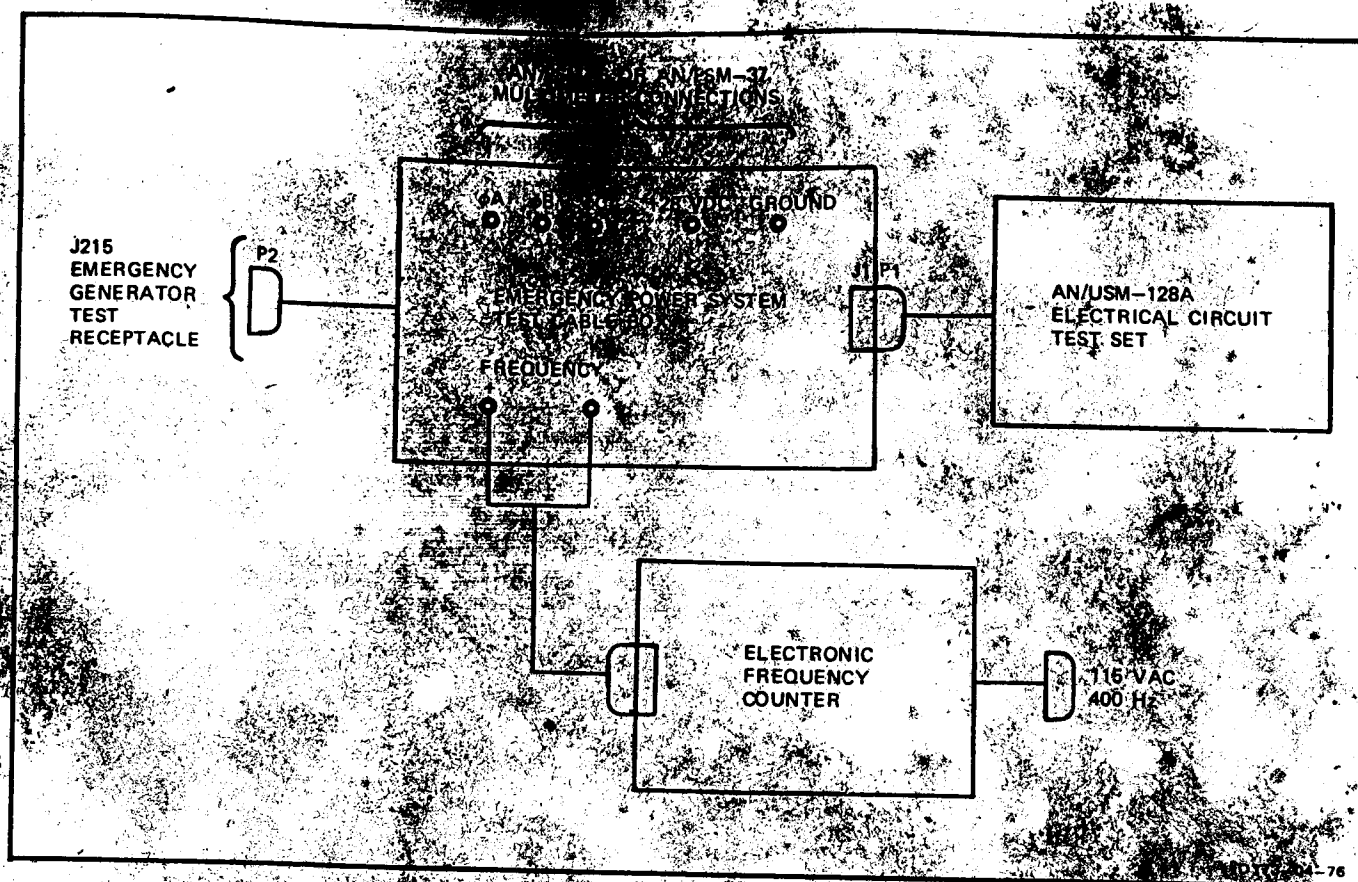

Figure 7-10. Emergency Power System Test Equipment Connections
k. Push against emergency power package to ensure that actuating cylinder is locking properly. (5)
s. Connect emergency power system test equipment as follows (figure 7-10):